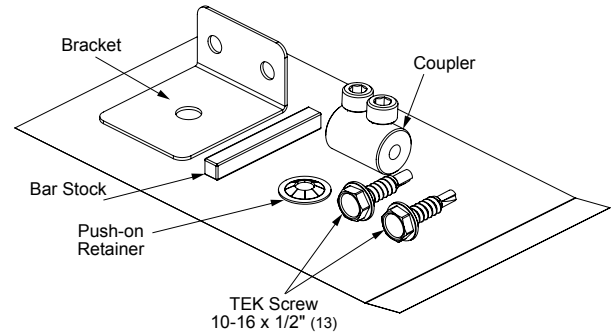

Figure 1
1. The Slot Mount Operators are made and delivered as 5-part kits as seen in Figure 1. Prior to the installation, read the provided installation instructions carefully.